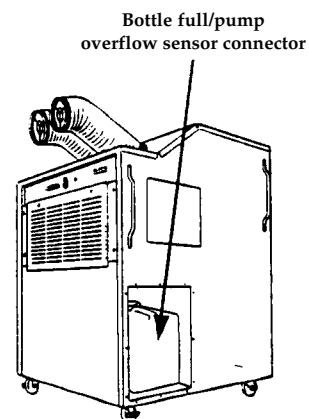

Figure 3 Bottle removed, preparing to install the pump
2. Disconnect the white bottle full/pump overflow sensor wire and remove the bottle (see figure 3).